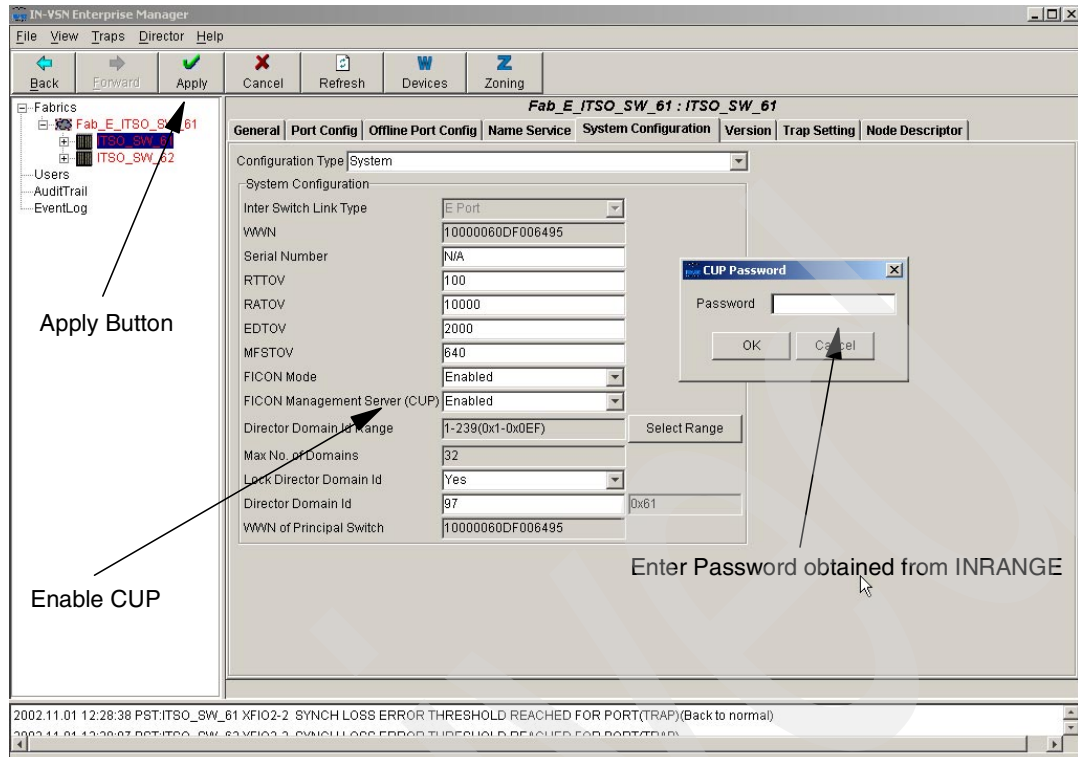

Figure 5-8 Enable CUP feature
1. Bring up the Director view of the Director in which the CUP feature should be enabled and click the **System Configuration** tab, then select **Enabled** from the drop-down box next to the CUP. Figure 5-8 shows the corresponding screen.